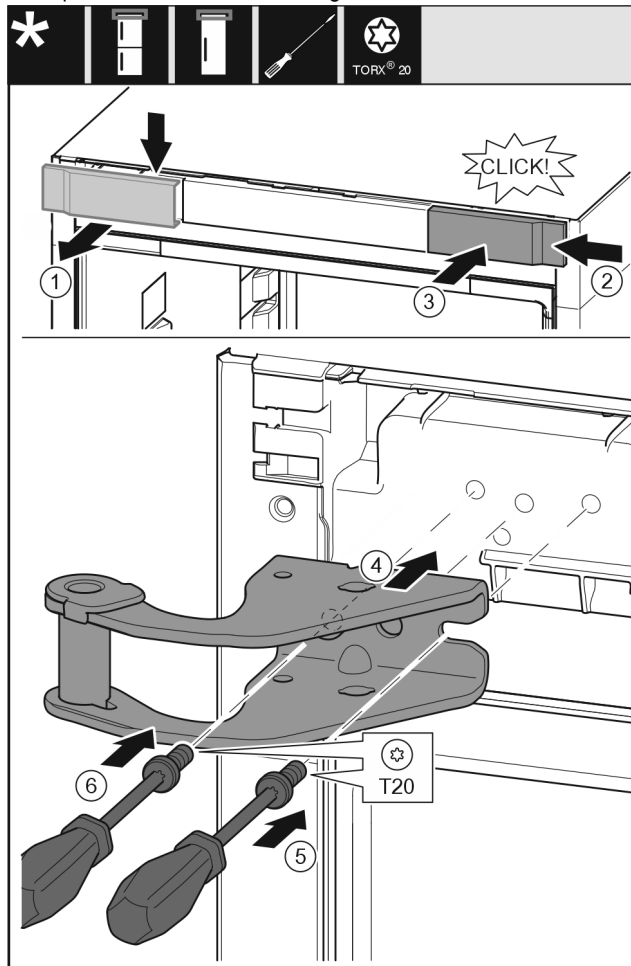

Fig. 10
- Remove the cover Fig. 10 (1) from above towards the front.
- Turn the cover Fig. 10 (2) by 180° and attach to the other side from the right.
- Engage the cover Fig. 10 (3).
- Place the top swap bearing block Fig. 10 (4).
- Use screwdriver Fig. 10 (5) to place the screw and tighten it.
- Use screwdriver Fig. 10 (6) to place the screw and tighten it.